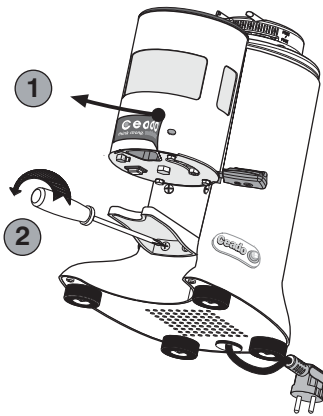

Fig. 13
- 1 Remove the Ceado sticker from the doser (1, Fig. 13) and remove the support fork, undoing the retaining screws (2, Fig. 13). Keep these screws in a safe place.